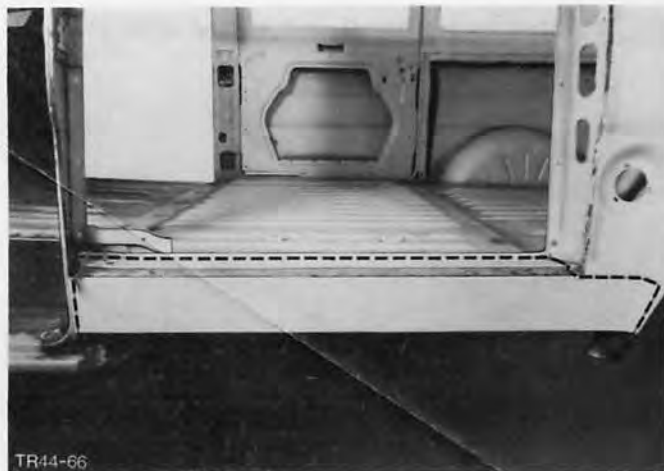

Fig.123. View of rocker panel to be cut out.
1. Mark out damaged rocker panel, Fig.123.